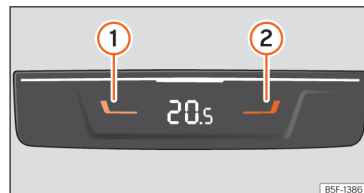

Fig. 116 In the centre console, rear section: controls for the rear seats.
- Press buttons  and   **Fig. 116** to adjust the temperature of the rear zone.